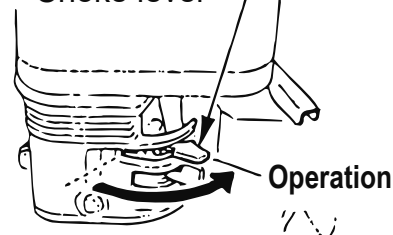

Fig. 18
6. When the engine has started, return the speed control lever to the low speed position immediately. Listening to the sound of the explosion, return the choke lever gradually to the fully open condition. (Fig.18)